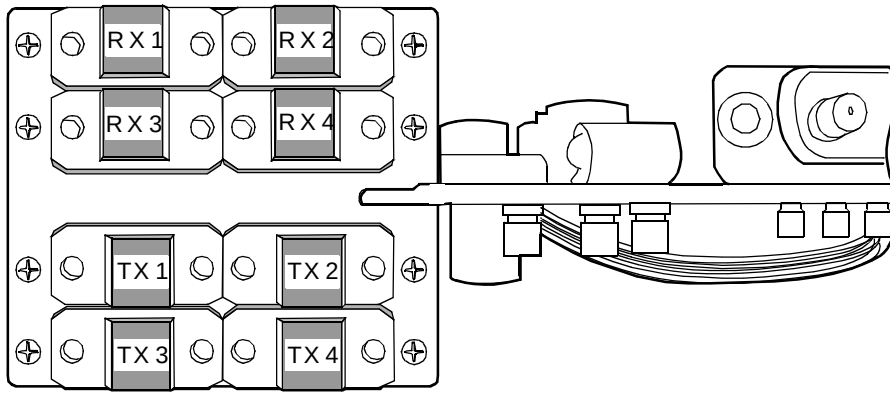

Figure 13. Optical port
1. Check which RX and TX optical port are not used. For example, if RX1 is not used, the optical connector RX1 corresponds to RX1 switch in Figure 13.